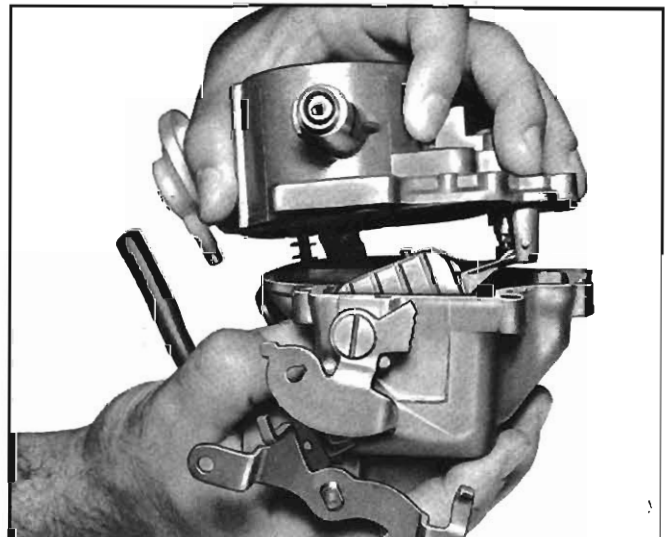

Fig. 13—Removing Bowl Cover
4. Remove remaining bowl cover attaching screws then remove cover assembly and gasket (fig. 13).